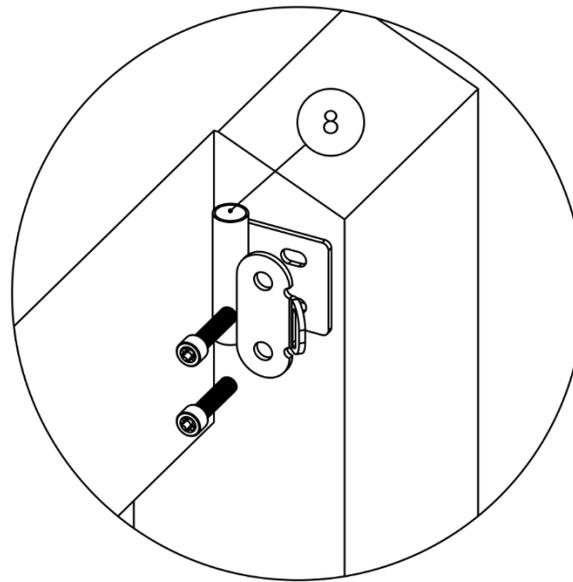

Figure 6
4. **Install the Safety Bolt Bracket and Safety Bolt.** The purpose of the Safety Bolt (Item No. 7) and its Bracket (Item No. 8) is to ensure that the back end of the Base Rails (Item No. 1) cannot slide into the truck's bed. The Safety Bolt Bracket, which receives and retains the bolt, mounts behind the upper tie-downs found at the rear of your truck's bed. To install, remove the tie-down screws using the T-50 3/8" Drive Bit Socket (Item No. 14) and re-install with the Bracket placed behind it – as shown in Figure 6. Align the Bracket in way that when the Safety Bolt is inserted, the snap button pops out below the hollow cylinder and a finger of space exists between the bedrail and the top of the Safety Bolt.